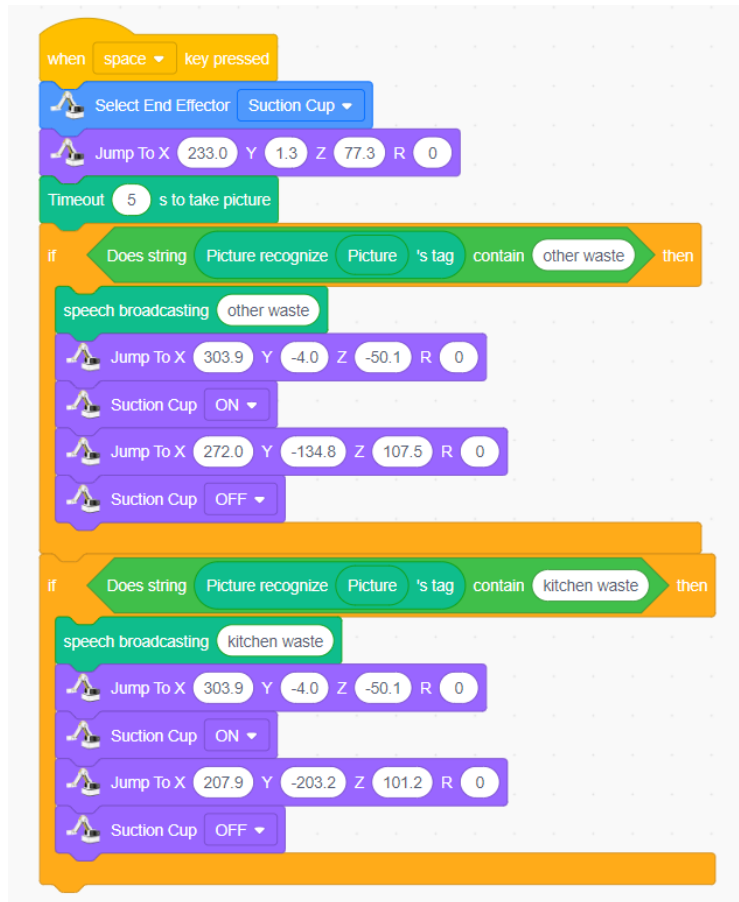

Figure 3.13 Garbage classification
Step 8: There are four types of garbage, so you need to judge it four times. The logic of the blocks is similar. The difference is the type of garbage and the position of the garbage bin. Here is an example of judging two types of garbage. The reference program is shown in Figure 3.13.